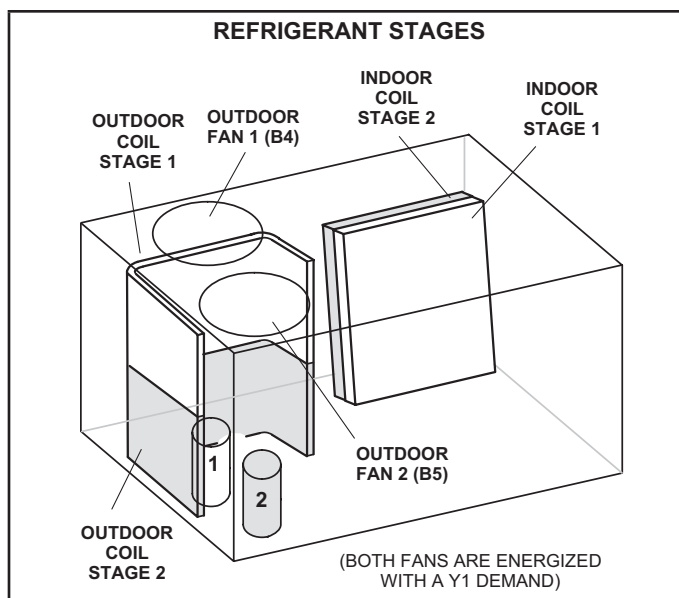

FIGURE 20
- 3 - Units contain two refrigerant circuits or stages. See FIGURE 20.